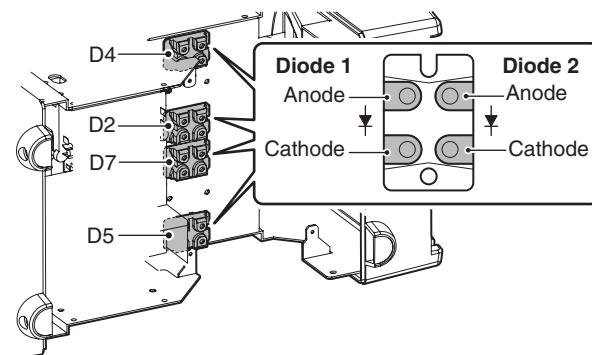

Figure 6-15: Tester checkpoints for D2-D7
- 2) Refer to Table 6-6 and Figure 6-15 for the checkpoints on D2-D7.